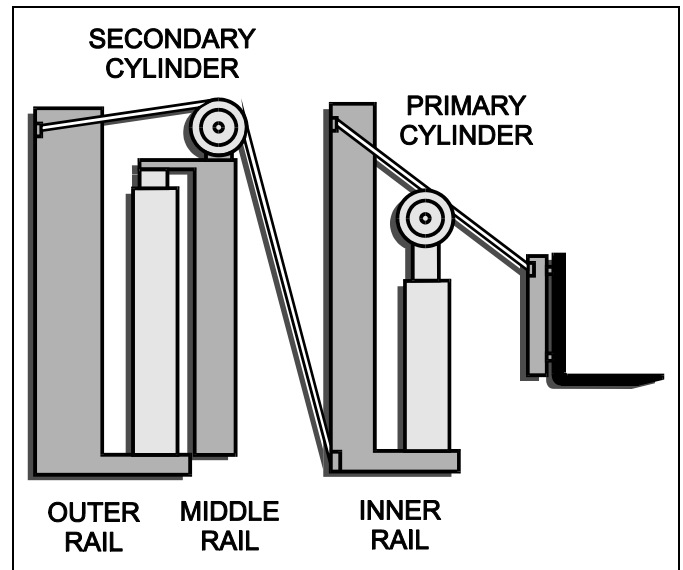

Figure 3-6: Mast in Collapsed Position
Masts are engineered to distribute thrust loads evenly between the rollers and rails. Masts move as a unit, providing maximum strength and endurance for the rated load and consist of up to four pairs of channels or rails (steel beams) rolling one within the other on steel rollers. The outer rails provide guidance and support for the middle rails, which in turn guide and support the inner rails. The truck forks are mounted on a carriage assembly that runs on rollers within the inner rails. See Figure 3-6.
- Free lift, in which only the carriage assembly moves, up to the maximum height allowed by the inner rail. See Figure 3-6.